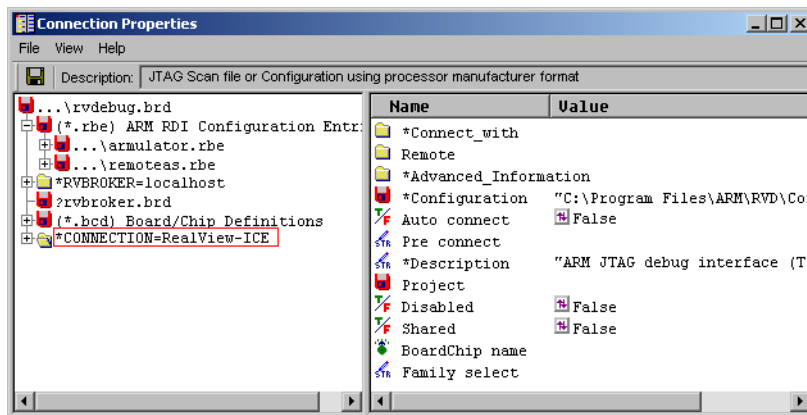

Figure 3-19 RealView ICE connection properties
2. Right-click on the RealView-ICE entry to display the Connection Properties window, shown in Figure 3-19.